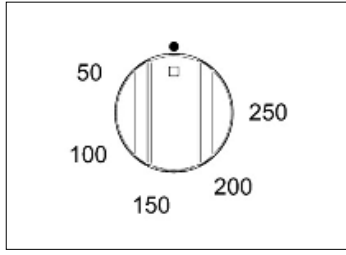
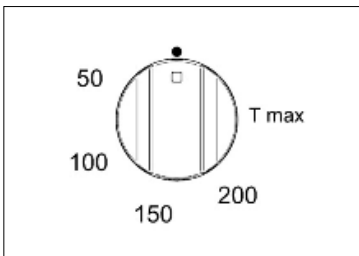
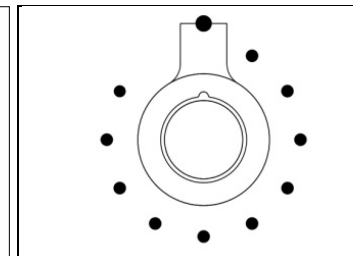

Fig 29A
Fig 29C
Fig 30
**2** Turn the temperature selector knob (Fig.29A-29B and Fig.30 for PRO T version Only or Fig.29C -29D for hybrid version only) clockwise to the desired temperature.